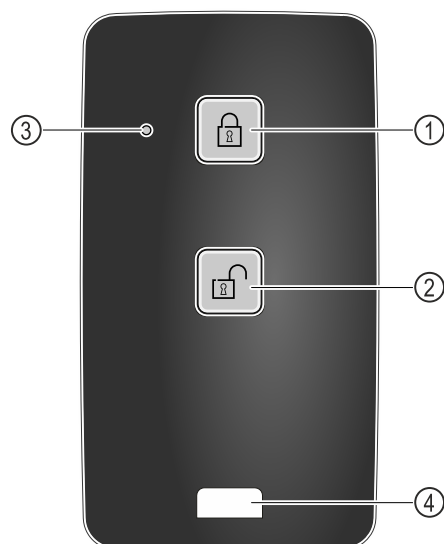

Fig. 249
- (1) Engage lock
- (2) Unlock lock
- (3) Status LED
- (4) Fastening eyelet
- Press button Fig. 249 (1) on the remote control.
- Press button Fig. 249 (2) on the remote control.
- Status LED Fig. 249 (3) provides a visual acknowledgement when you press the button.
- Eyelet Fig. 249 (4) for attaching remote control, for example, to a key ring.